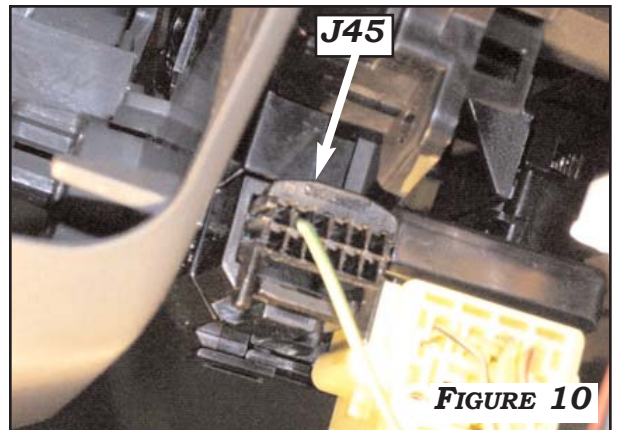

FIGURE 10
2. LOCATE CONNECTOR **J45** CONNECTOR BEHIND STEERING WHEEL AT RIGHT SIDE OF SUB ASSEMBLY. **FIGURE 10.** REMOVE CONNECTOR. **BE SURE TO PUSH OUT TERMINAL RETAINER AT THE CENTER OF CONNECTOR. FIGURE 11.** IF PRESENT, REMOVE THE **YELLOW WIRE** IN **PIN 1** OF CONNECTOR **J45.** **SEE FIGURE 12.** INSERT THE **CLOCK-SPRING** TERMINAL FROM THE COROLLA CRUISE ECM HARNESS (**BLACK WIRE**) TO **PIN 1** OF CONNECTOR **J45.** CAREFULLY LOCK TERMINAL INTO PLACE. PULL THE TERMINAL BACK GENTLY TO CHECK WHETHER IT IS LOCKED CORRECTLY.